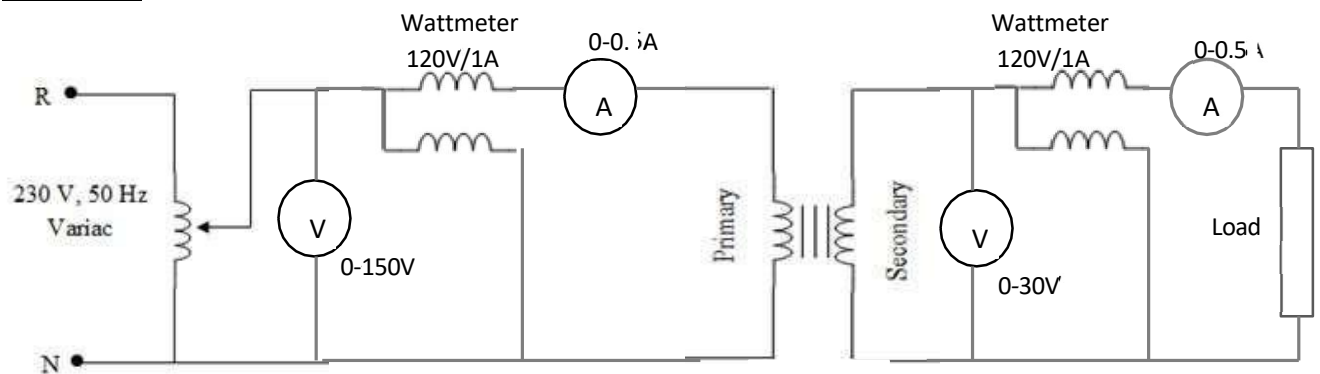

Figure 4: Load test circuit diagram
1. Connect the circuit as shown in figure 4 and set the variac to zero position.